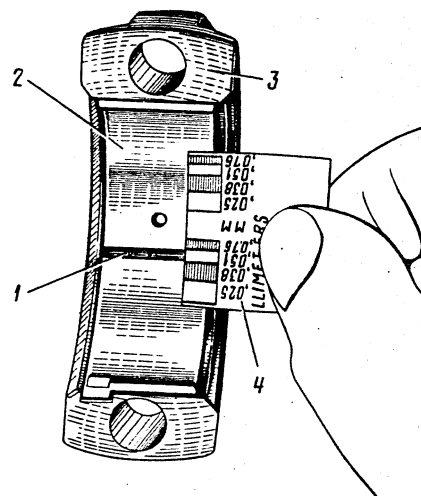

Fig. 2-29. Measuring the Width of Flattened Calibrated Wire with a Scale:
- remove the cap and, using the scale on the wire packing, determine the flattening of the wire (Fig. 2-29), thus finding the clearance.